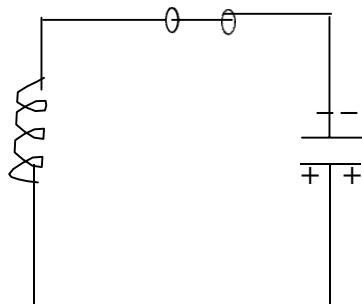

Fig. 3
- Once the capacitor is discharged, the magnetic field will begin to collapse and produce a counter emf. According to Lenz's law the counter emf will keep the current flowing in the same direction. The result is that the capacitor is now charged with opposite polarity making upper plate of capacitor -ve and lower plate +ve as shown in fig. 3.